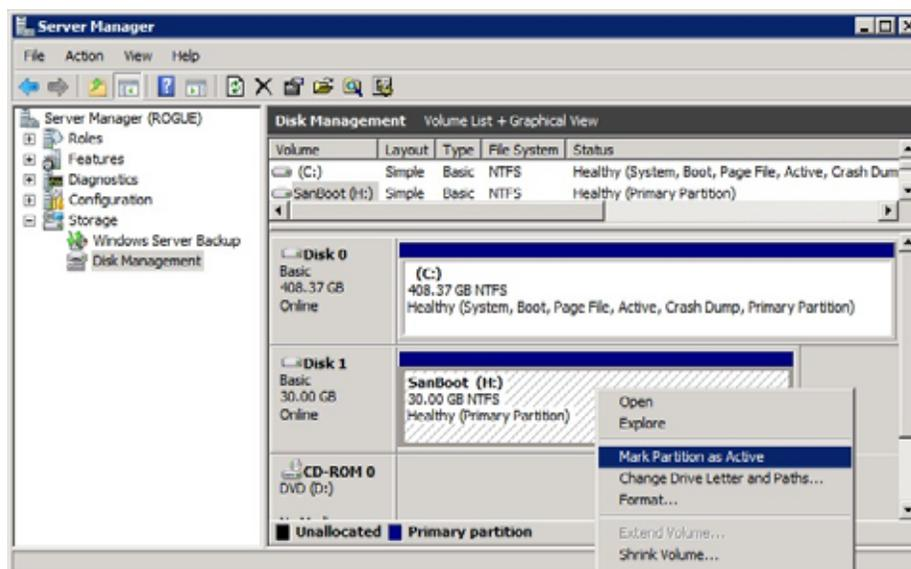

Figure 3 Server Manager — Marking Disk Active
**Step 7** Using Disk Manager, format the disk and mark it “active.” Figure 3 on page 117 shows marking the disk active through Server Manager.